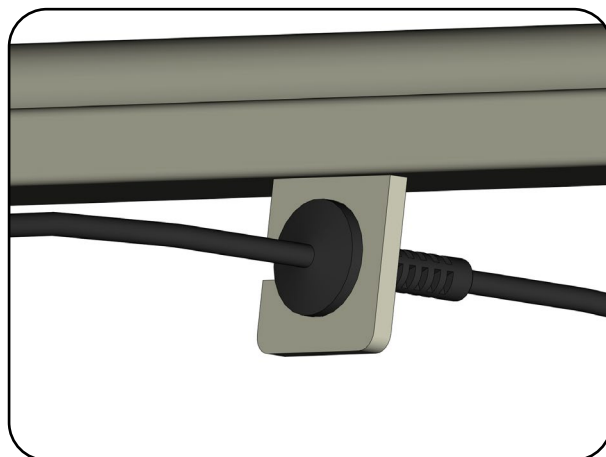

Fig. 6.3.04 – Strain relief in holder
4. Press the strain relief of the power cable into the holder on the head end (Fig. 6.3.04).